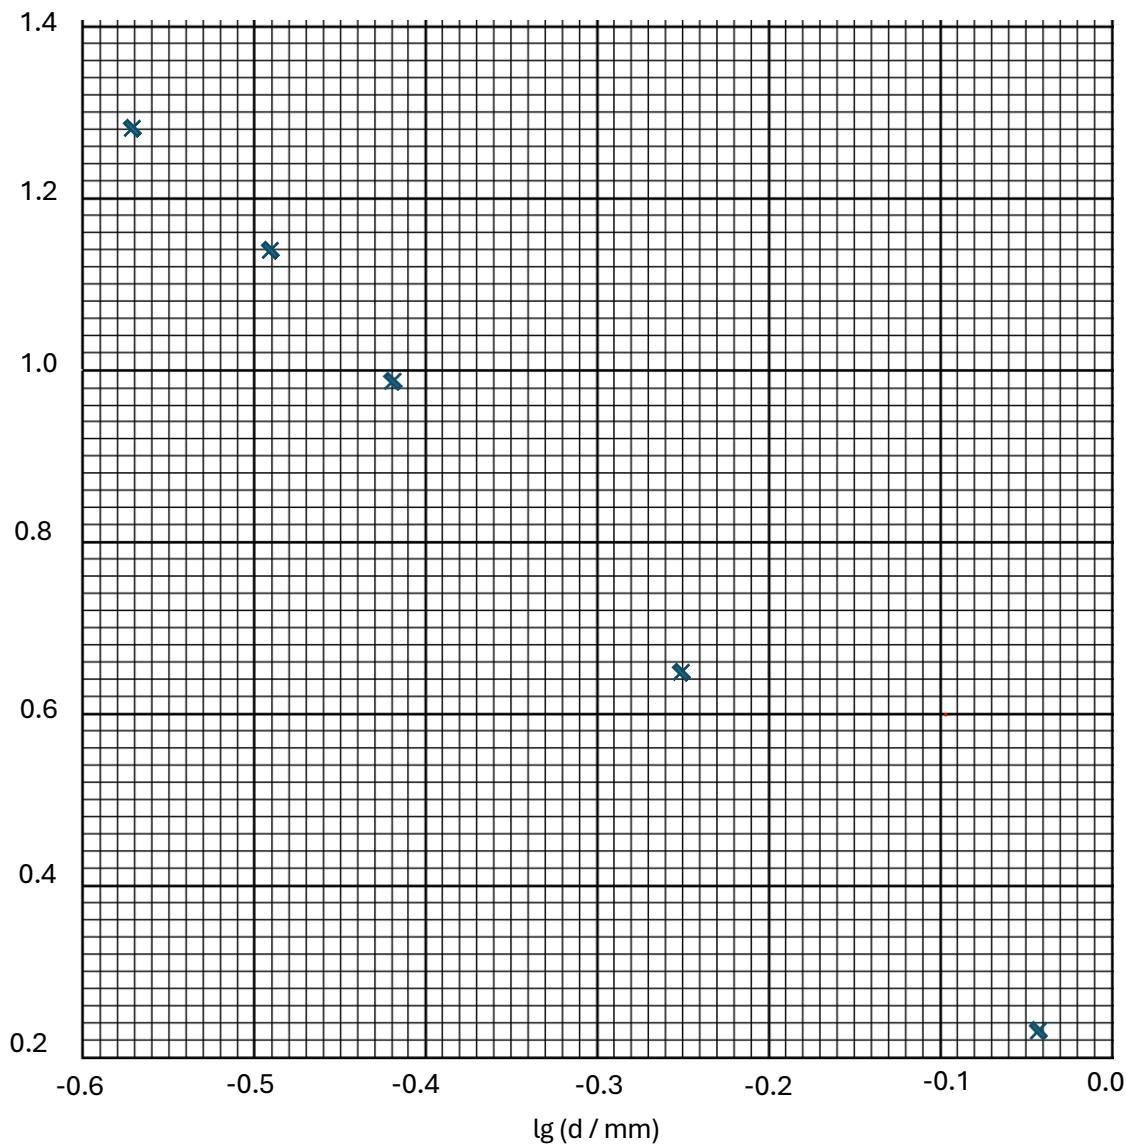

Fig. 7.2
The student then plots the variation of $\lg(d / \text{mm})$ with $\lg(R / \text{m}\Omega)$ on a graph. The graph is shown in Fig. 7.2.
- (ii) Explain why the graph of Fig. 7.2 supports the student's hypothesis.
- (b) (i) Plot the point for $d = 0.46$ mm on Fig. 7.2. [1]
(ii) Complete Fig. 7.2 by drawing the line of best fit. [1]
- (c) Use Fig. 7.2 to find the resistance R of wire "A" with diameter 0.73 mm.